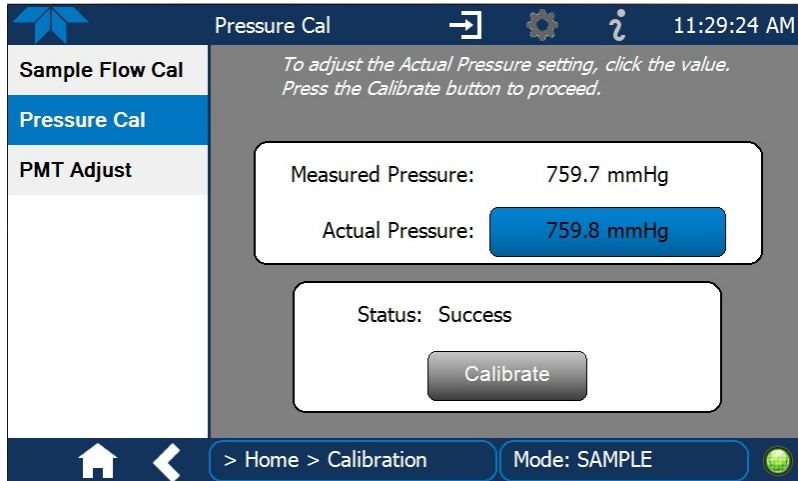

Figure 14. Pressure calibration screen.
2. Compare the “Measured Pressure” in this screen to the Audit Pressure Standard (Figure 14).